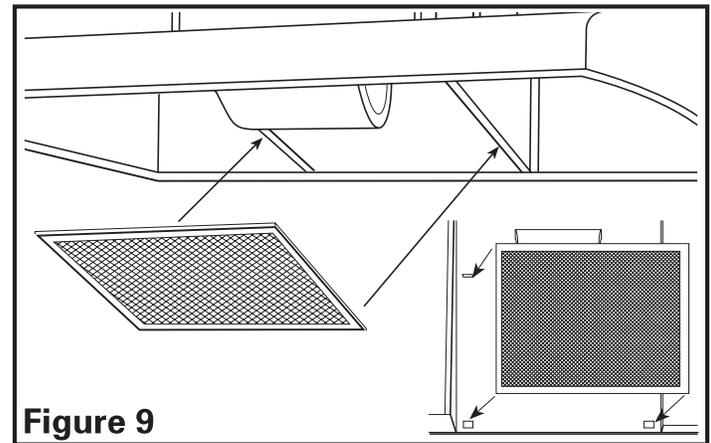

Figure 9
1. Install the appropriate filter sliding the back side of the filter into the tab and pressing the front of the filter into place (Figure 9).